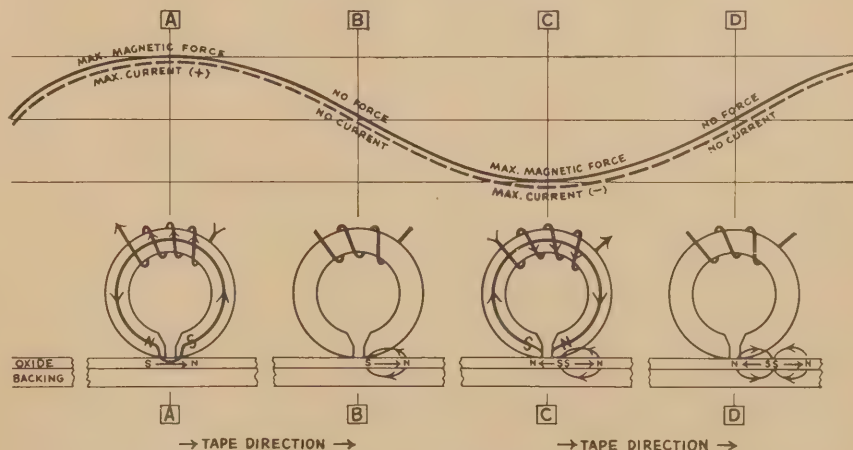

Fig. 3—What happens when you record. Magnetic force in the head, transferred to the tape, alternates in exact step with current in head coil.
#### SPECIFICATIONS (see Figs. 3, 4 and 5)
Because the lines of force left inside the tape point in one direction, that direction must necessarily be North. The other end of the area, therefore, becomes South. This is shown in Fig. 3 at A.
Engineers call this current  $90^\circ$  out of phase because the current and force do not match. During recording, the magnetic force and the current that produces it are in phase, as Fig. 3 shows. But on playback, where the motion of the magnetic force must create the current, it is a quarter cycle ( $90^\circ$ ) ahead of the current it creates.
**Monophonic system, lateral reference tone 1.4 cm/sec peak @ 100 cycles:** Measurements must be made with a monophonic cartridge, or with a stereo cartridge strapped for lateral output as in Fig. 3-b. The difference in meter readings between the test tone and quiet grooves, less 35 db, is the lateral rumble. For example, if the quiet-groove rumble reading is the same as for the test tone, the turntable's lateral rumble is -35 db, the 1953 NAB standard for mono turntables for broadcast work. If the rumble reads 6 db higher than the test tone, the lateral rating is  $(-35 + 6)$ , or -29 db. If the rumble reads 5 db less than the test tone, the lateral rating is -40 db, the amended (1964) NAB standard.